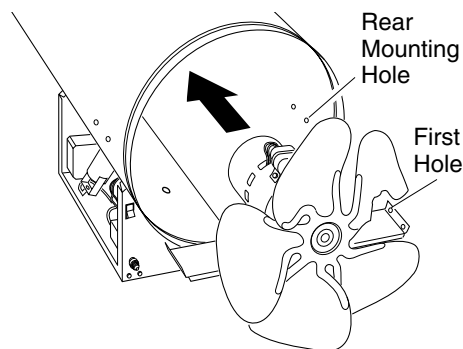

Figure 13 - Fan and Motor Turned Around
8. Turn motor and fan around. Place motor and fan into shell backwards. **Note:** Motor will go into shell first (see Figure 13).
9. Line up rear mounting holes in shell with first hole on each side of motor mount (see Figure 13). **Note:** When holes are lined up, fan should be outside of shell.